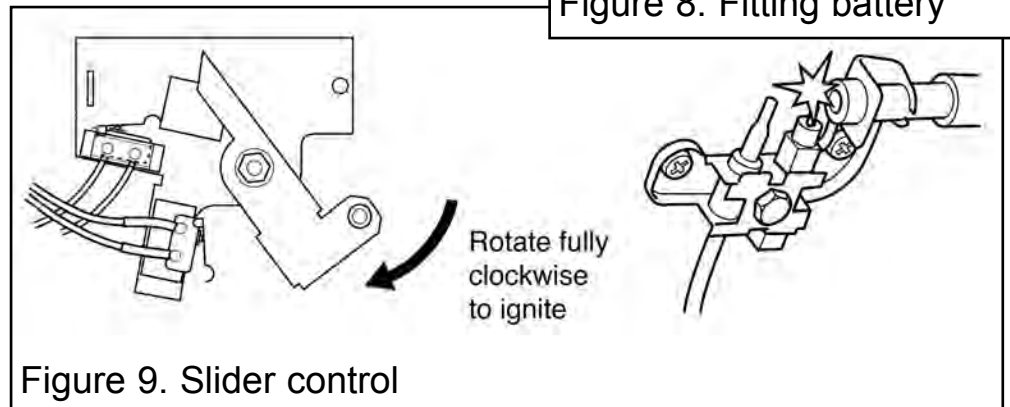

Figure 9. Slider control
– Depress the control pivot plate as far as it will go. This should close the ignition circuit. Sparks should be seen tracking from the electrode pin to the pilot tip (See figure 9).
2. Depress the control pivot plate as far as it will go and hold in this position (See section 6, figure 9). This should close the ignition circuit and (now that the gas is connected) simultaneously open the gas tap allowing the gas to flow to the pilot. Wait a few seconds while the air is purged. The electronically generated sparks should light the pilot. The pilot should then light the main burner at its low setting. There may be a delay of up to four seconds between the pilot lighting and ignition of the gas at the main burner. This is normal and is due to the time required to fill the main burner compartment with sufficient gas for ignition.